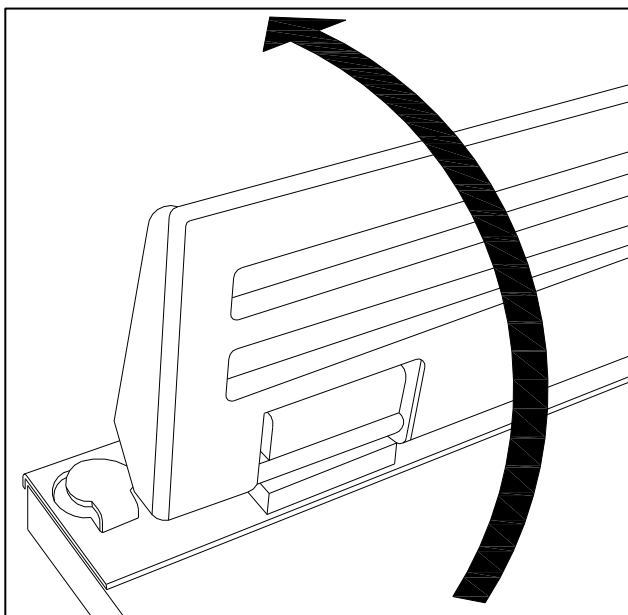

Fig. 1-2
- (b) If needed, place Cargo Divider Door in the up position as shown. (Fig 1-2)